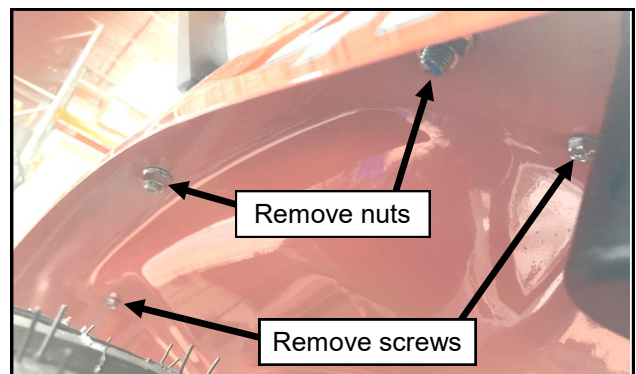

Fig. 1.6 (fender underside, left)
**1.6** Remove the left or right fender console by removing two 14mm nuts and 10mm screws on the underside of the fender. Remove the fender handle from the console and discard. See Figure 1.6